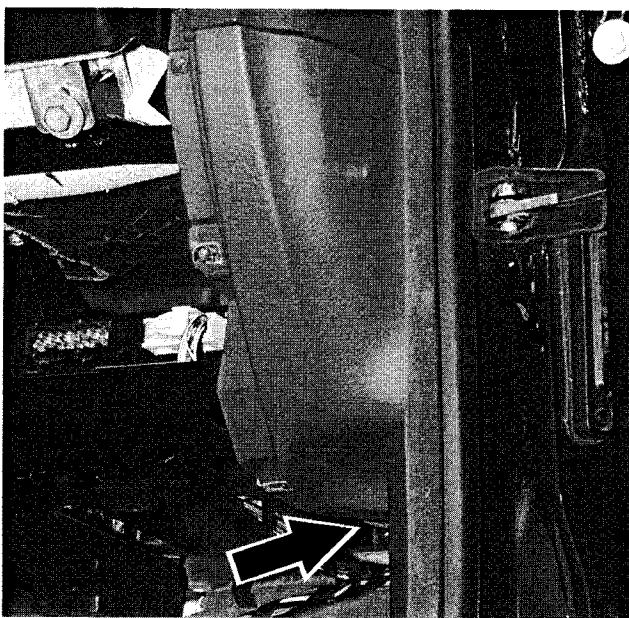

Fig. 4. Lower right dash trim piece retaining screw (arrow).
4. Remove lower left dash trim piece as described above. Remove lower right dash trim panel. See Fig. 4.
8. Working inside door, disconnect outside door handle and lock cylinder linkage from door lock. Remove lock from inside door. See Fig. 4.
Fig. 4. Pry out lock linkage (A) from plastic retainer. Lift door lock mechanism slightly to remove latching pin from lock gate (B). Door lock mechanism shown removed from door.